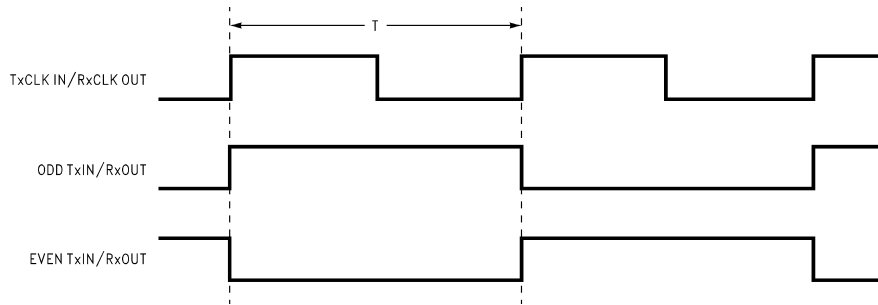

FIGURE 1. "Worst Case" Test Pattern
- Note 7:** Figures 1, 2 show a falling edge data strobe (TxCLK IN/RxCLK OUT).